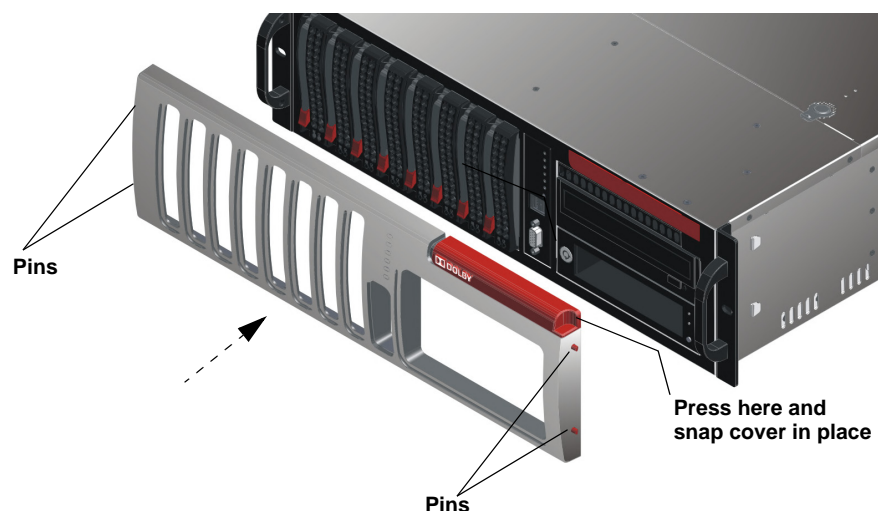

Figure 3-6 Install Front-Panel Cover
2. Place a finger on the cover's upper right indent, press inward to depress the two pins on the right side, line up the pins with their respective holes, then release your finger to insert the pins and snap the cover in place (see Figure 3-6).